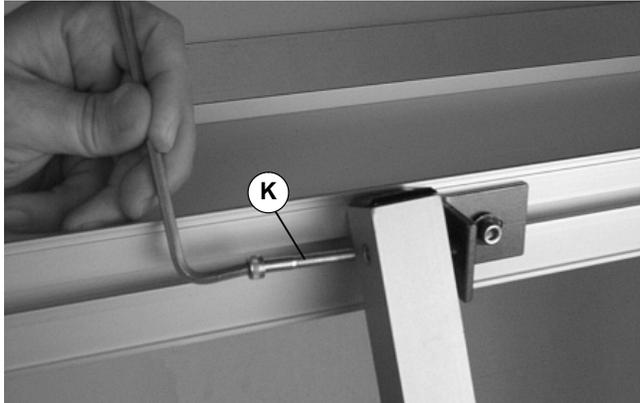

Figure 18
- Loosely attach adjustable bar (B of Figure 18 or 19).
- Attach outer tube end with screw (K of Figure 18)